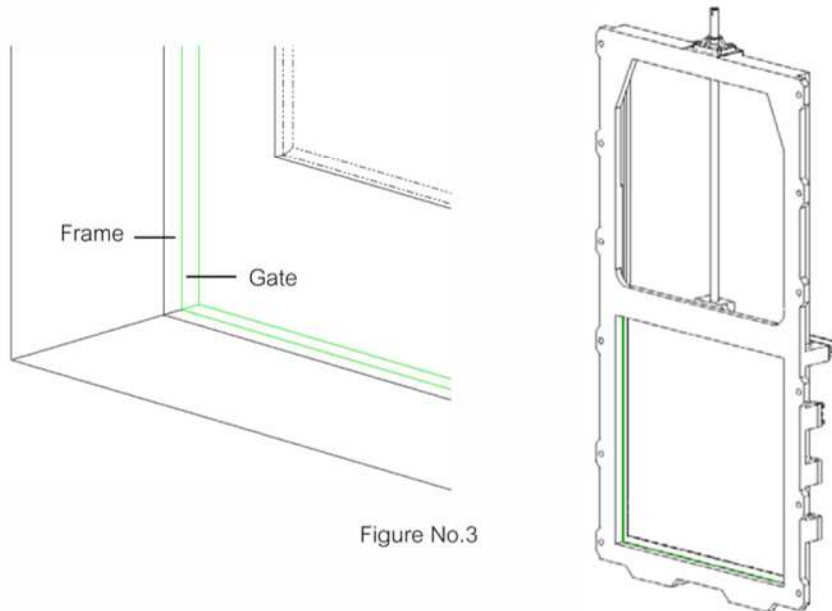

Figure No.3
3. Insert the 0.1 mm. Filler gauge between gate and frame to check the leakage. ( Set the penstock until there is no leakage between gate and frame.) ( Figure. no.3 )